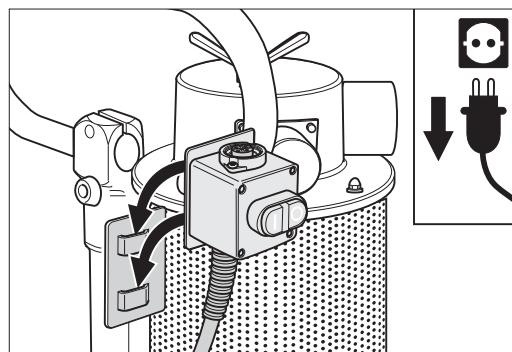

Fig. 21a Hook the switch into support on the chassis.
- 3 Remove the on/off switch from motor switch box and hook it into support on the chassis (Fig. 21a).